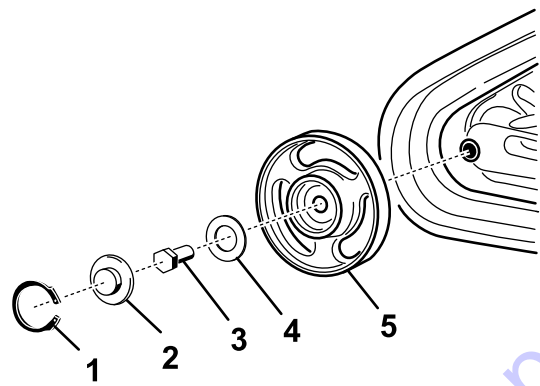

Figure 58
**Note:** You may need to remove the front, outside road wheel. To remove it, remove the snap ring and cap from the center of the road wheel (Figure 58). Next remove the bolt and gasket from the center of the wheel and pull the wheel off the machine.